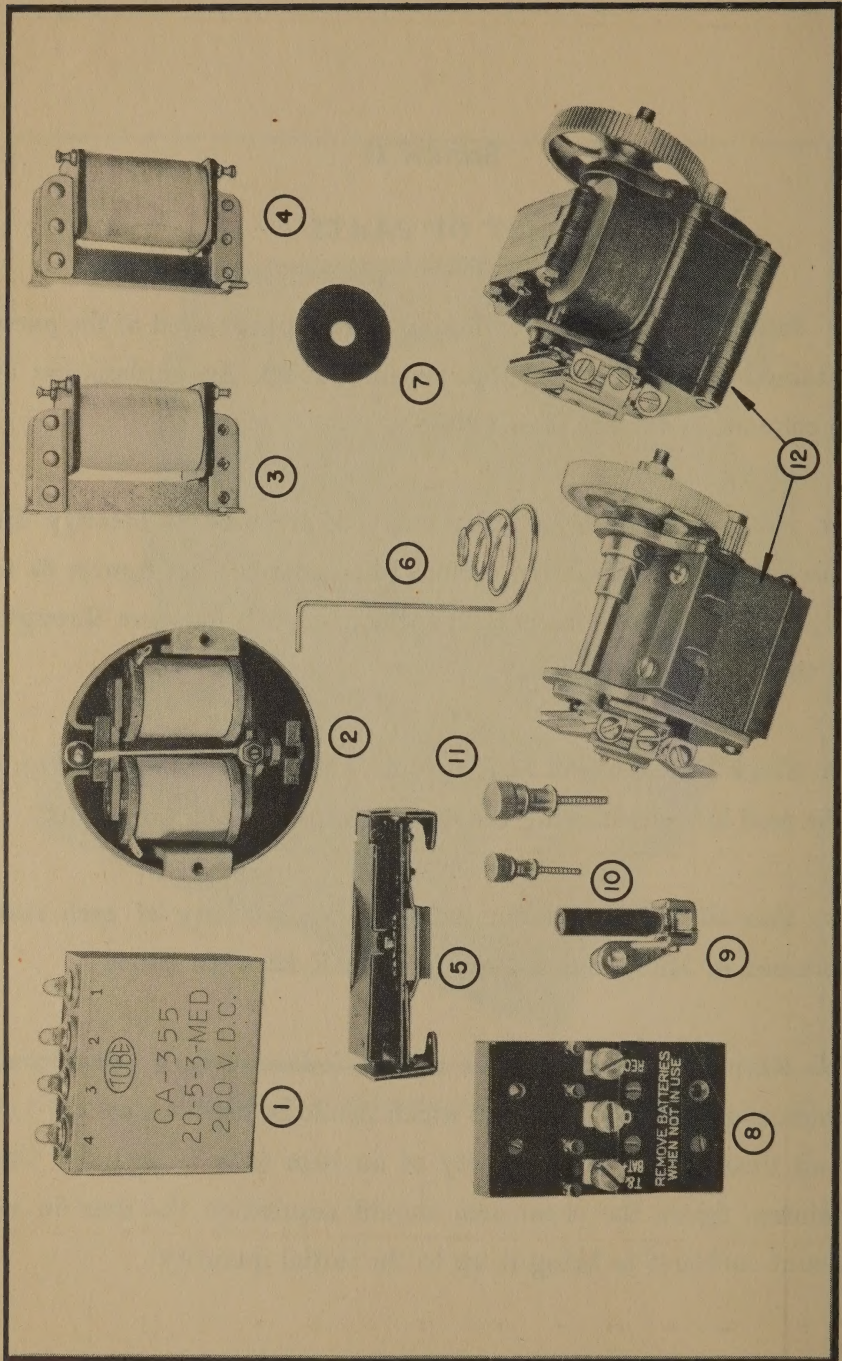

FIGURE 2a — Component Parts (Item 1-12)
a. Reference Number.—These numbers are used to identify the items as they appear on the various photographs (See figures 2a to 2d), and reference is made to the items by such numbers throughout the text of this manual.